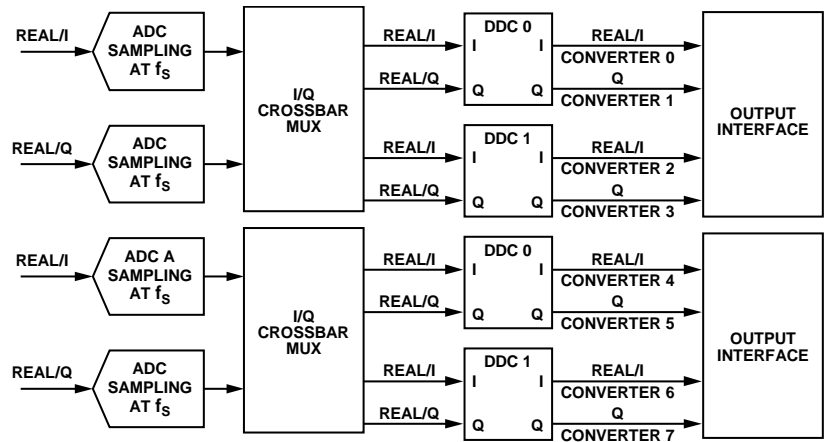

Figure 99. DDCs and Virtual Converter Mapping
The JESD204B Tx block for AD6684 supports up to four DDC blocks. Each DDC block outputs either two sample streams (I/Q) for the complex data components (real + imaginary), or one sample stream for real (I) data. The JESD204B interface can be configured to use up to eight virtual converters depending on the DDC configuration. Figure 99 shows the virtual converters and their relationship to the DDC outputs when complex outputs are used. Table 34 shows the virtual converter mapping for each chip operating mode when channel swapping is disabled.
If the internal DDCs are used for on-chip digital processing, M represents the number of virtual converters. The virtual converter mapping setup is shown in Figure 99.